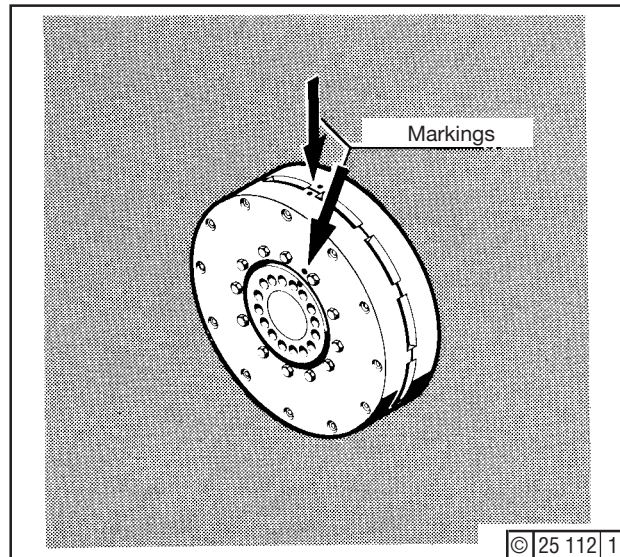
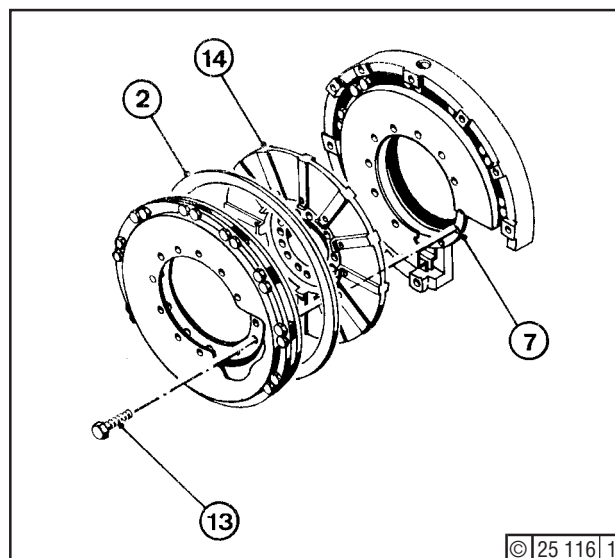
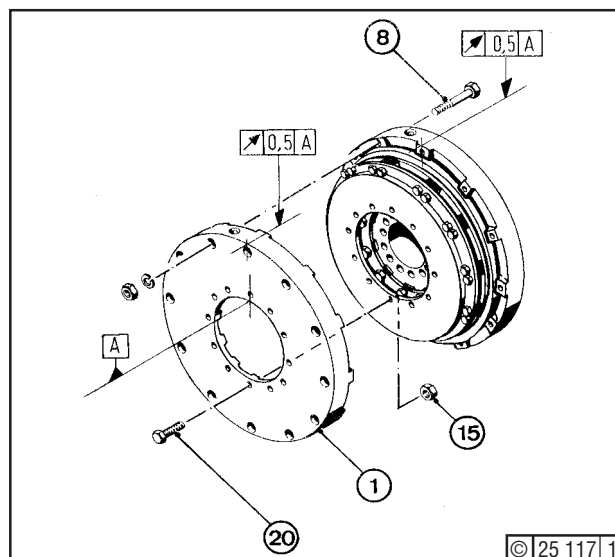
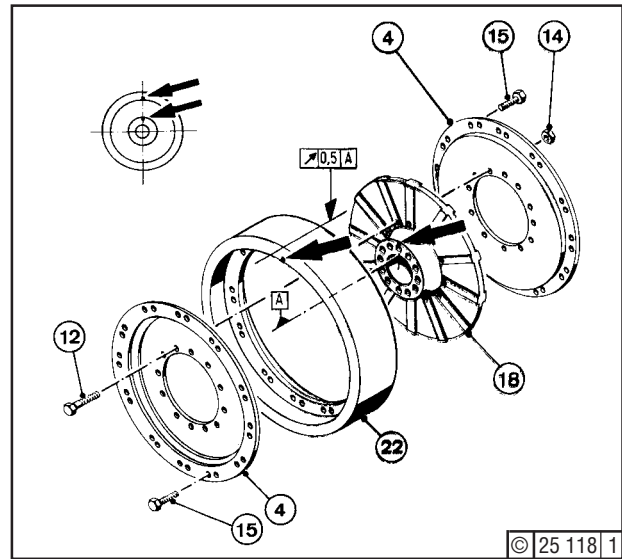

Fig. 1
Fig. 5
Fig. 6
Fig. 7
Markings provided on the large castings to show relative positionings - Fig. 1.
Insert ring (2) - Fig. 5 - and disc (14), observing markings as per Fig. 1. Bolt up the two damping-disc pairs and disc (14) by means of hex. bolts (13) - inserted with Deutz DW 55 - and c/w threaded ring (7) (Section 3.5, item 59).
Place end plate (1) - Fig. 6 - in position, observing markings as per Fig. 1. Insert hex. bolts (8) and fasten with nuts complete with spring lockwashers. Fit hex. bolts (20), provided with Deutz DW 55. Tighten up end plate and damping-disc pair with hex. nuts (15) (Section 3.5, item 58).
Dismantling (2-element Damper) - Fig. 7
Reassembly (2-element Damper) - Fig. 7
Mount vibration damper (job 12.01.03). If an end plate (Fig. 6, item 1) or a fly ring (Fig. 7, item 22) had to be renewed, the damper must be statically balanced.
Finally, check for true running as per Figs. 6 or 7.